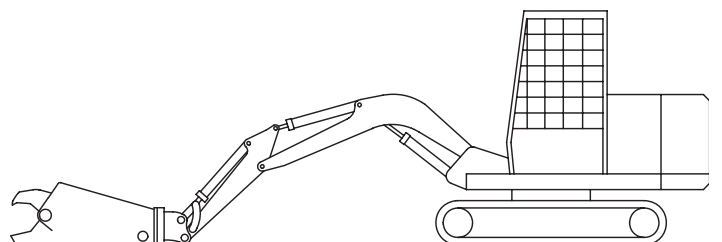

FIGURE 3-4
4. Walk the excavator into position, lining the stick into the stick pivot of the attachment (Figure 3-4).